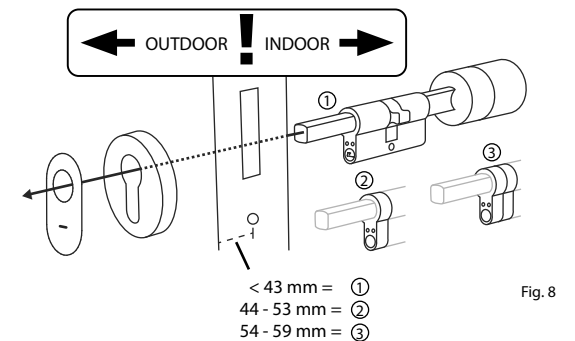

Fig. 8
- 5 From inside the door, push the cylinder into the mortise lock. Push the emergency lock cover onto the outer side of the locking shaft (Fig. 8).